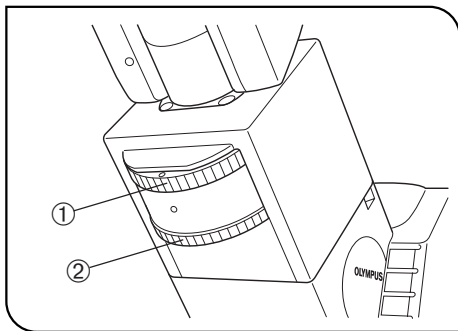

Fig. 57
4 Centering the Phase Contrast Ring Slit (Figs. 57 to 59)
2. When the U-BI90CT binocular observation tube is used, rotate the CT turret ① to position "CT". When the observation tube in use is other than the U-BI90CT, remove an eyepiece and attach the U-CT30 centering telescope in place. (Fig. 57)
4. Rotate the focus ring ② (or the knurled section when the U-CT30 is used) to focus on the ring slit ③ and the phase plate ④ of the objective. (Figs. 57 & 58)
5. Using the optical element centering knobs ⑥, turn the two centering screws ⑤ of the phase contrast slider so that the ring slit image overlaps with the phase plate of the objective.